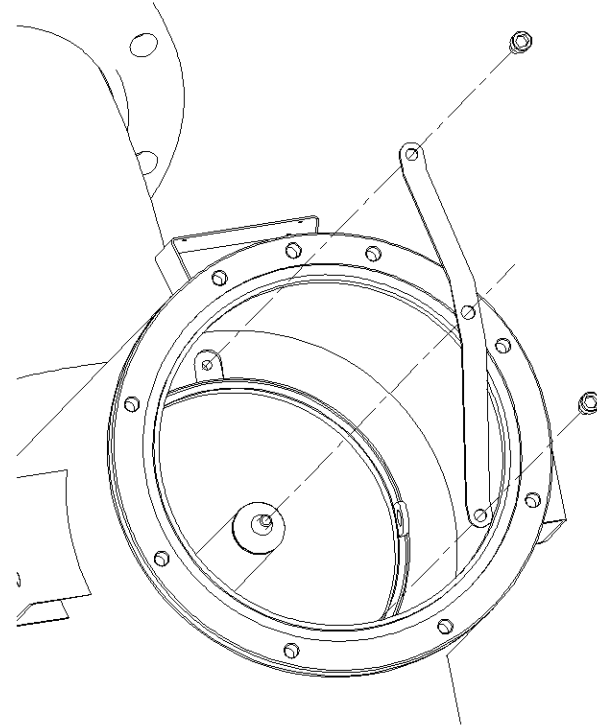

Figure 5
34. Inspect and clean or replace if necessary the 3/8-16 socket head cap screws (Figure 5, item 2) and corresponding threaded holes in the filter vessel element flange.
35. Install the element hold-down bar (Figure 5, item 1) and secure with the 3/8-16 socket head cap screws (Figure 5, item 2). Tighten the 3/8-16 socket head cap screws to 20 ft-lbs. **DO NOT operate strainer without hold-down bar properly installed. Loss of filtrate quality and element damage may result if these instructions are not followed.**
Table for Figure 5 – Actuator and Element Brace